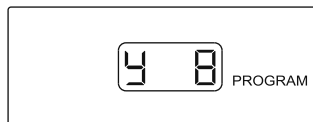

Figure 2-11
1. The first thing that you will adjust is the Year (Y). Pressing the **SET** button for 3 seconds will cause the center digit after the Y to flash (see **Figure 2-11**). This should remain a 0 until the year 2010, and then it will be changed to a 1. Pressing the up and down arrow buttons will adjust the value of this digit. When you have selected the number that you want, press the right button to adjust the right digit in the same manner with the up and down arrow buttons. When you have the proper number displayed for the year (Y) press and hold the **SET** button for 3 seconds until the monitor beeps twice and the display flashes twice. (The monitor will now display like **Figure 2-12**.)